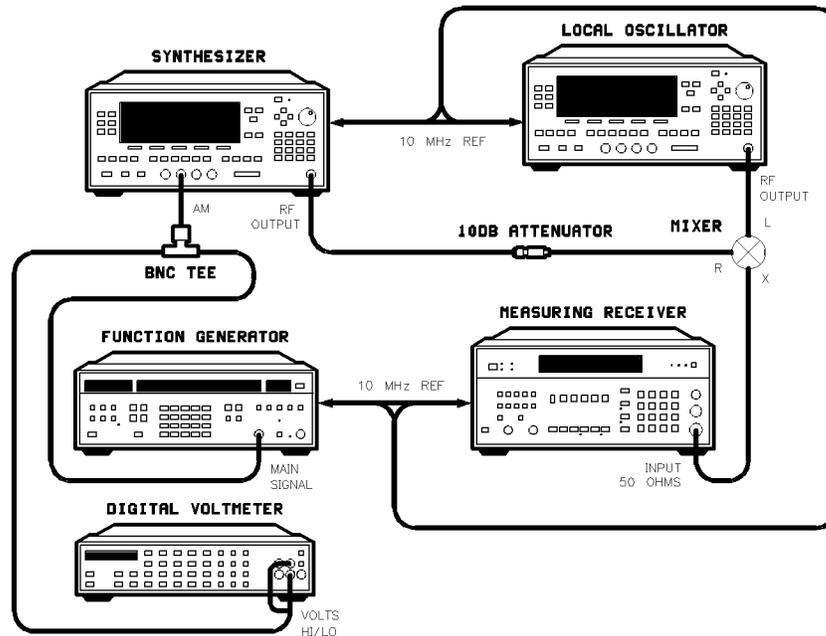

Figure 2-24. AM Accuracy Test Setup < 20 GHz
12. Connect the equipment as shown in Figure 2-24.